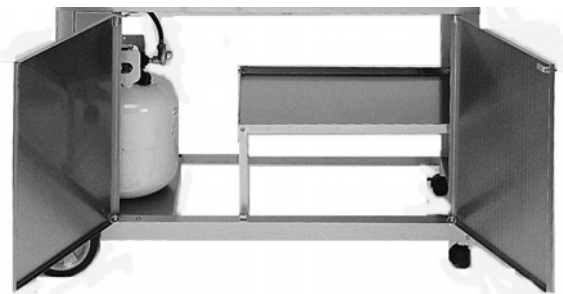

FIGURE 2
- 24- With the door in the open position, align the left front door mounting holes, with the mounting holes in the cart frame. ( SEE FIGURE 2 )